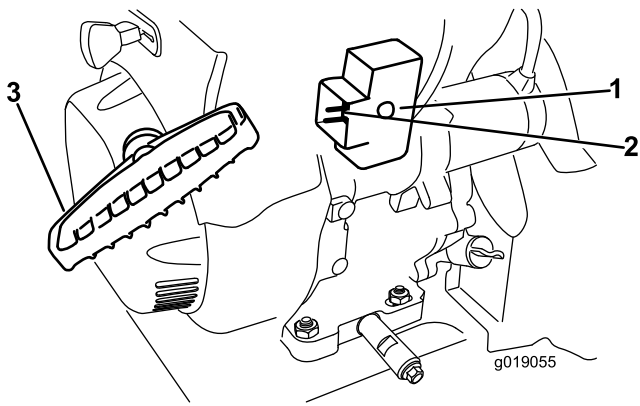

Figure 23
7. Start the machine by pulling the recoil-start handle or pressing the electric-start button (Figure 23).